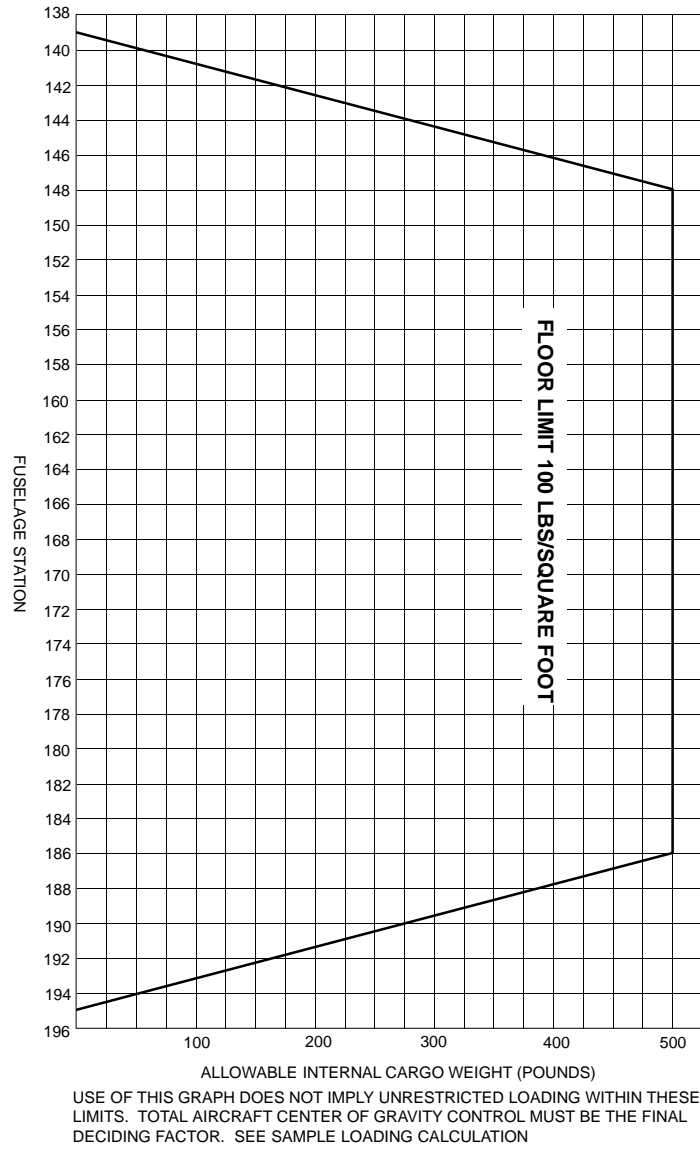

Figure 7-3. Internal Cargo Loading Diagram
- Figure 7-3 Internal cargo loading diagram